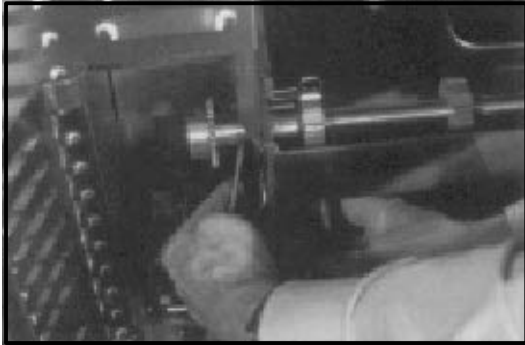

Figure 28
- a.) Remove the 1/4" hex bolt and nut (inside control box), that fastens the drive side conveyor support to the control box. See Figure 28.